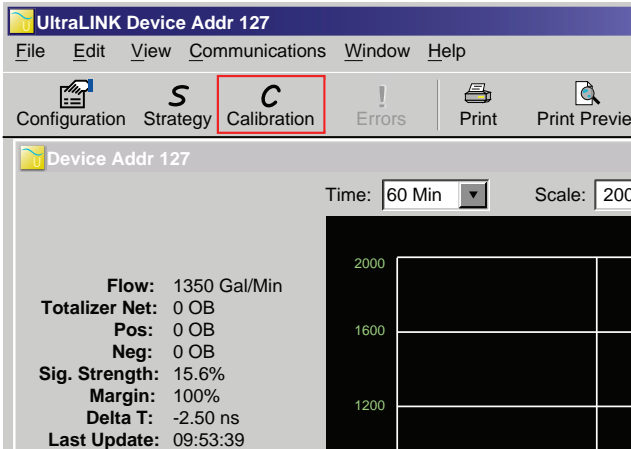

Figure 17: Data display screen
2. From the tool bar, select **Calibration**. See Figure 17.